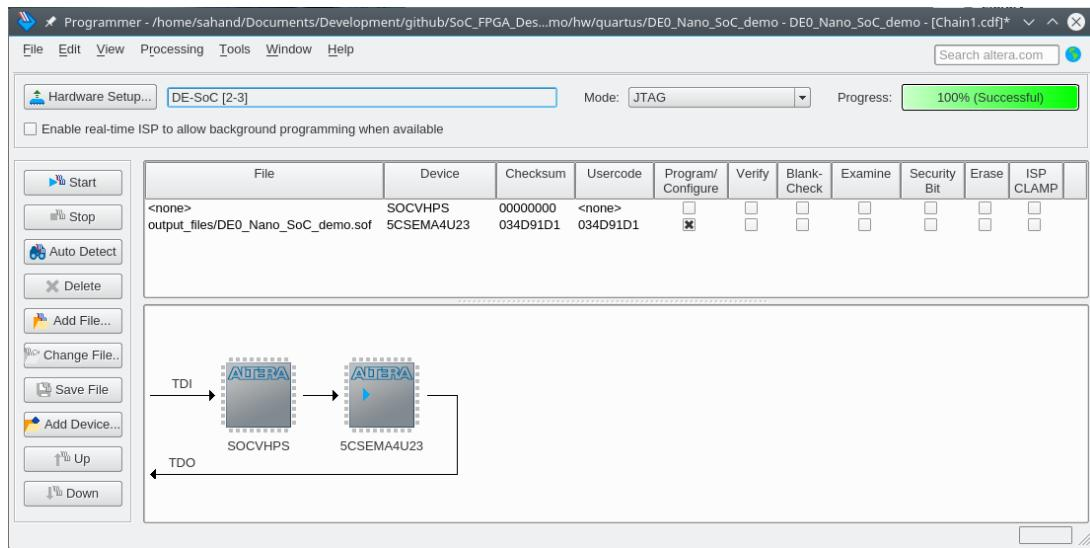

Figure 9-22. Programming the FPGA
44. Enable the “Program/Configure” checkbox for device “5CSEMA4U23”, then press the “Start” button, as shown in Figure 9-22.